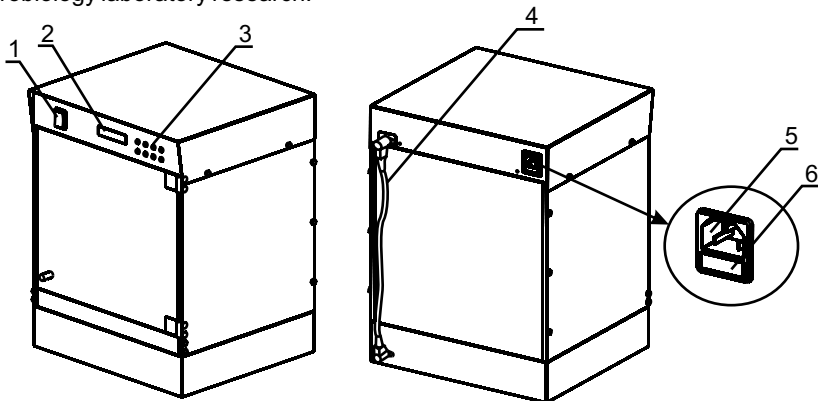

Fig.1 Unit construction
- power switch (fig.1/1);
- display (fig. 1/2);
- control buttons (fig. 1/3).
- shaking block control cable (fig.1/4);
- socket for connecting the power cord (fig. 1/5);
- fuse holder (fig.1/6).
❶ UP-12
❷ PP-4
❸ P-12/100
❹ P-6/250
❺ P-16/88
❻ HB-200
- connect the shaker control cable (fig.1/4) into the corresponding sockets on the rear of thermostatic and shaking blocks;
- Plug the mains cable into the socket on the rear (fig.1/5) and position the unit so that there is easy access to the power switch and connector.